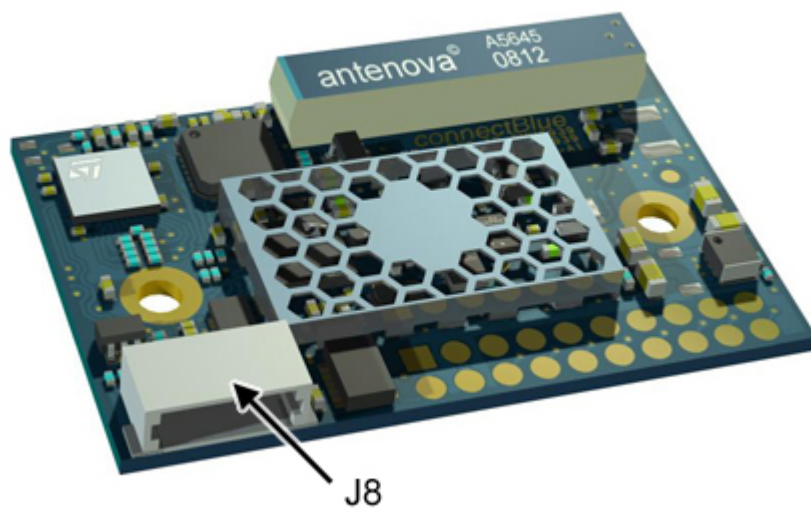

Figure 5: The JST connector J8 mounted on the module (cB-OBS433i-06).
- Optional: Via the JST connector, J8 (see Figure 5). The connector is a 6 poles wire connector. The pitch is 1mm. The manufacturer of the connector is JST with part number SM06B-SRSS-TB. The SM06B-SRSS-TB connector is e.g. mated with the SHR-06V-S from JST but other options are available.